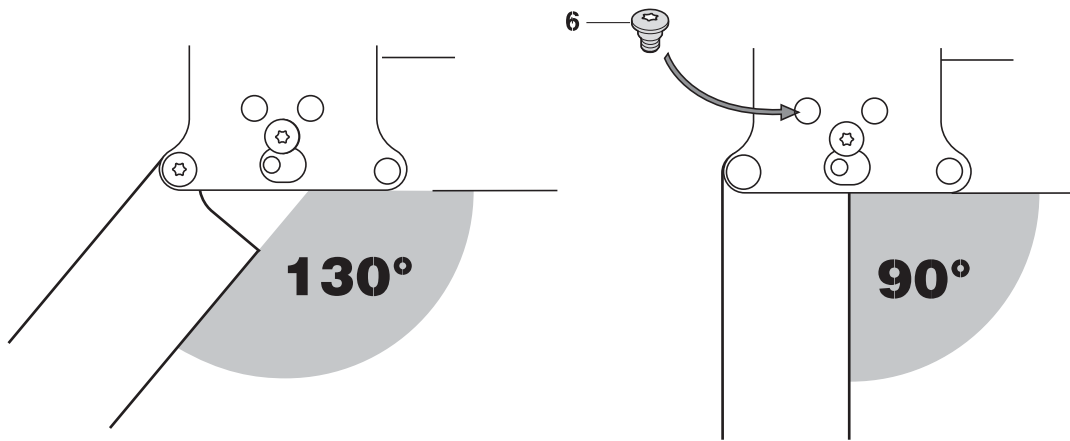

Figure 14
## Door Opening Angle - Figures 14, 15
- **Insert** attached screw (6) in the **upper** hinge as shown in **Figure 14**.